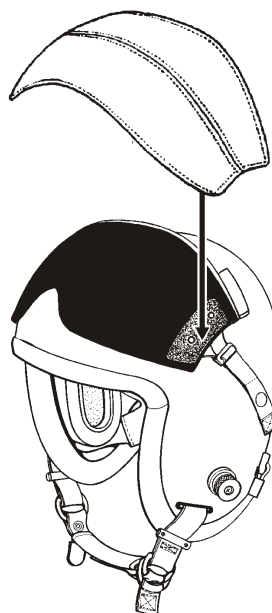

Figure 3-26. Installation of Visor Cover
6. Referring to Figure 3-26, install the cover by attaching the hook fastener on the inside of the cover to the pile fastener on the visor.